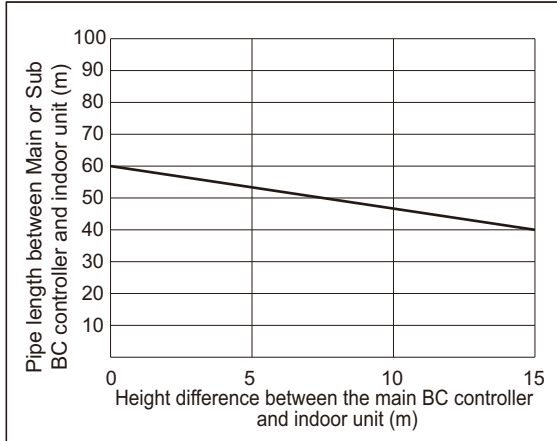

Fig. 2
- *2. Details refer to Fig. 2.
- *9. When the piping length or the vertical separation exceeds the limit specified in Fig. 2, connect a sub BC to the system. The restriction for a system with a sub BC connection is shown in Fig. 3. When a given system configuration falls within the shaded area in Fig. 3, increase the size of the high-pressure pipe and the liquid pipe between the main BC and sub BC by one size. When using P/M32, P/M40, P/M50, P/M100, or P/M125 model of indoor units, increase the size of the liquid branch pipe between the sub BC and indoor unit by one size. When using indoor models P/M140 or larger, the restrictions shown in Fig. 2 cannot be exceeded.
*9. When the piping length or the vertical separation exceeds the limit specified in Fig. 2, connect a sub BC to the system. The restriction for a system with a sub BC connection is shown in Fig. 3. When a given system configuration falls within the shaded area in Fig. 3, increase the size of the high-pressure pipe and the liquid pipe between the main BC and sub BC by one size. When using P/M32, P/M40, P/M50, P/M100, or P/M125 model of indoor units, increase the size of the liquid branch pipe between the sub BC and indoor unit by one size. When using indoor models P/M140 or larger, the restrictions shown in Fig. 2 cannot be exceeded